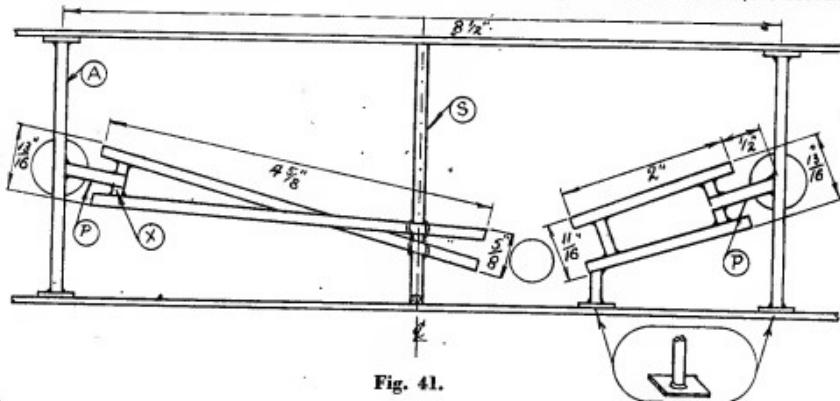

Fig. 41.
A very good idea of the transmission arrangement and the propeller mountings may be gathered from the photograph, which shows the rear of the model biplane, while Fig. 41 gives the necessary constructional details. The whole structure is made from 14 S.W.G. brass tubing. As a start, the propeller brackets, as shown in Fig. 42, should be constructed. Taking a piece of tubing, cut it to the length of (A), shown as 3 in. in the diagram. It will be as well to check that this measurement is correct for
your replica, as the tubes have to be a wedge fit between the rear spars of the wings, as may be noticed in the photograph. To the side of this tube, solder the bearing tube (B); then add the two tubes (C) (C). It will be seen that these are soldered to the side of the upright (A), but are chamfered off and soldered flush with the outer end of the tube (B). Small feet, cut from a piece of tin, are then soldered to the ends of the tube (A), in the manner shown in the small, encircled drawing at the bottom of Fig. 41.